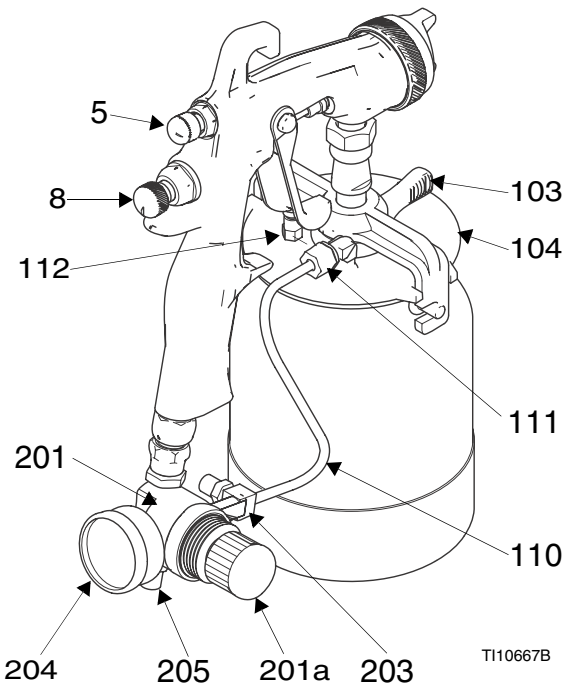
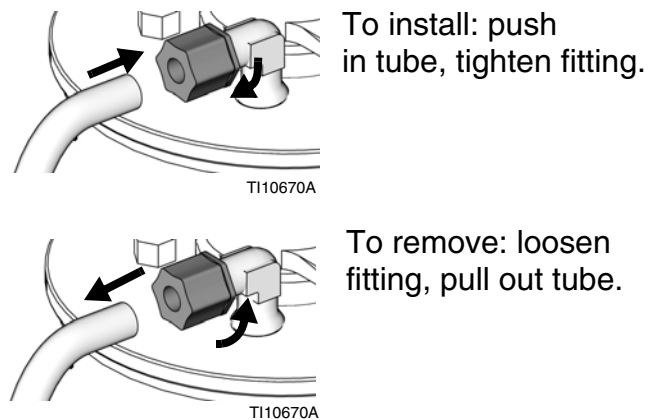

FIG. 2
FIG. 4
1. Install air pressure regulator (201) to the gun air inlet fitting (25). See FIG. 2.
2. Install pressure tube (110) firmly onto regulator safety valve (203) tee.
3. Install pressure tube into cup pressure inlet fitting (111) as far as it will go then tighten fitting clockwise. See FIG. 4, page 8.
4. Pull out the air pressure regulator (201) knob and turn it counterclockwise until it stops. This shuts off air pressure to the gun.
5. Connect a clean, dry filtered air supply to the gun air regulator inlet (205).
2. **Model 289233:** Turn regulator (201) knob fully counterclockwise. Relieve cup pressure by opening the cup pressure relief valve (112). See FIG. 2, page 5.
2. Disconnect pressure tube (110) from cup pressure inlet elbow fitting (111). See FIG. 4, page 8.
5. Remove and clean shield (108), then reinstall it. See Parts, page 38.
6. Close pressure relief valve (112) and spray into grounded metal waste container until equipment is clean.
Only disconnect the pressure tube (110) at the cup pressure inlet elbow (111). See FIG. 4.